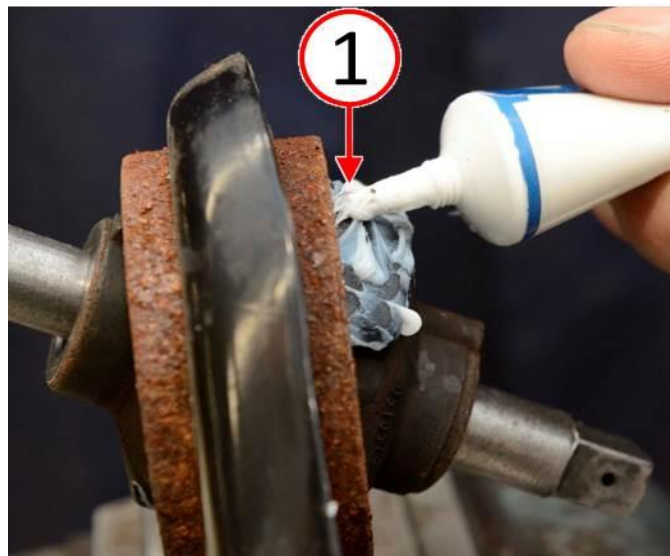

Fig. 3 Nye Lubricant Application
6. Apply Nye® lubricant liberally to bushing sides where internal bushing contact is made (Fig. 3).